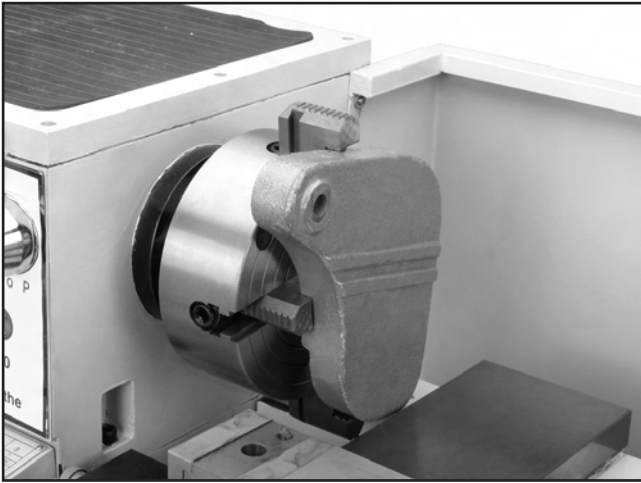

Figure 27. Properly held workpiece for offset machining at low RPM.
6. After the workpiece is held in place, back the tailstock away and rotate the chuck by hand. The center point will move if the workpiece is out of center (see **Figure 27**).